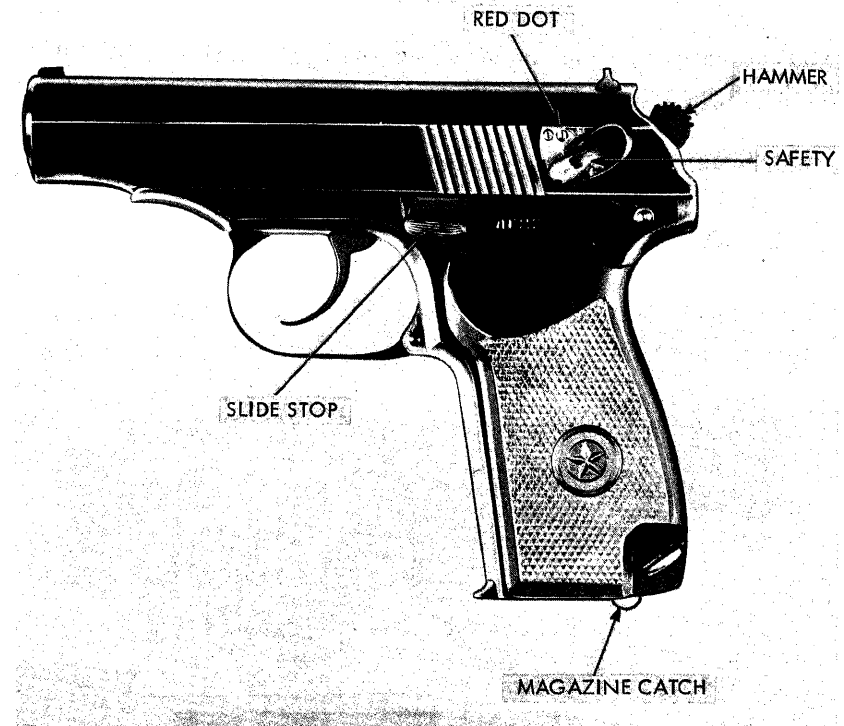

Figure 1. Soviet Makarov pistol (PM).
The Makarov pistol is the standard sidearm of most major Eurasian Communist armies. It is known to be produced in the Soviet Union, East Germany, and the People's Republic of China (PRC). The Soviet version, the PM (Pistolet Makarov), can be identified by its lanyard loop and the encircled star cast into the grips (fig 1). The East German Pistole M has plain grips and no lanyard loop (fig 2). The PRC version, the Type 59 pistol, has "59 SHI" stamped on its receiver. The Makarov is an eight-shot, semiautomatic, blowback-operated, magazine-fed pistol fitted with a double-action trigger mechanism. In addition to conventional functioning, this mechanism also allows the hammer--if uncocked--to be cocked and released by a single long pull on the trigger. The Makarov fires the 9x18-mm pistol cartridge (sec VI).
b. Insert the magazine into the pistol so that the magazine catch (fig 1) retains the magazine.
c. Rotate the safety (fig 1) downward; grasp the slide by its milled grooves and pull it fully rearward against spring tension. Release the slide; it will return forward, loading the pistol.
d. If desired, set the pistol on safe by rotating the safety upward until the red dot (fig 1) on the slide is covered. The hammer will fall; but because the safety blocks the firing pin, the pistol will not fire.
f. Remove the magazine by pressing the magazine catch away from the magazine and withdrawing the magazine. To close the slide, if open, press down on the slide stop (fig 1); or remove the magazine and pull the slide slightly rearward, then release it.
f. When the last round is fed from the magazine, the magazine follower moves to its highest position. The magazine spring, working through a lug on the lower left side of the follower, then presses the slide stop (fig 1) up against the slide. When the slide recoils, the slide stop enters a notch in the slide and holds it open.